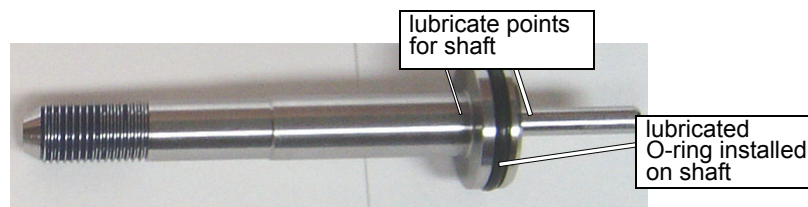

Figure B-11: Install the Shaft O-ring onto the Shaft
4. Apply **Lubriplate** onto the **shaft** immediately in front of and behind the shaft O-ring (Figure B-11).